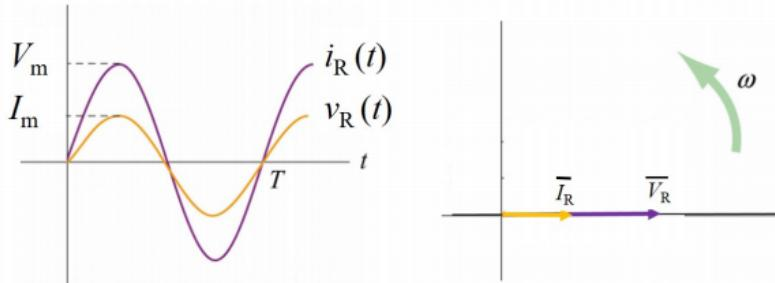

Figure 19: Voltage waveform and current waveform of a resistor (left) and the phasor diagram (right)
For a **resistor**, the voltage waveform and current waveform (Figure 19) are **in-phase**:
**It is a real number and is equal to the value of resistance.** The voltage phasor and the current phasor of a resistor are shown in the **phasor diagram** in Figure 19 (right).